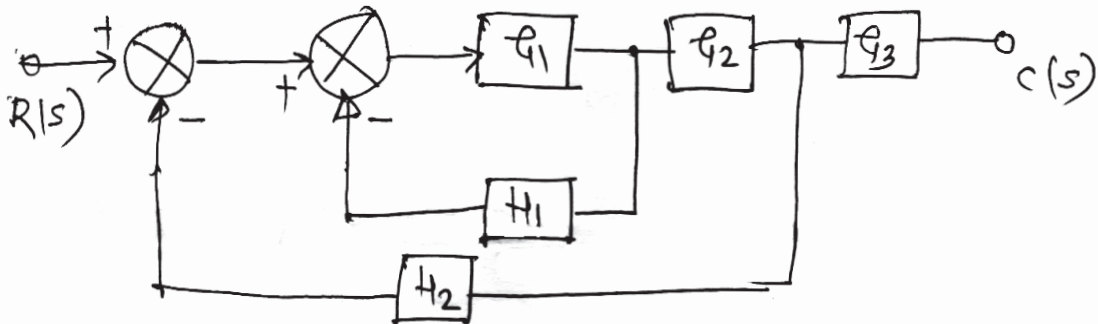

fig 2b
- b) Determine transfer function using block diagram reduction technique for the system shown in fig.2b. [8]